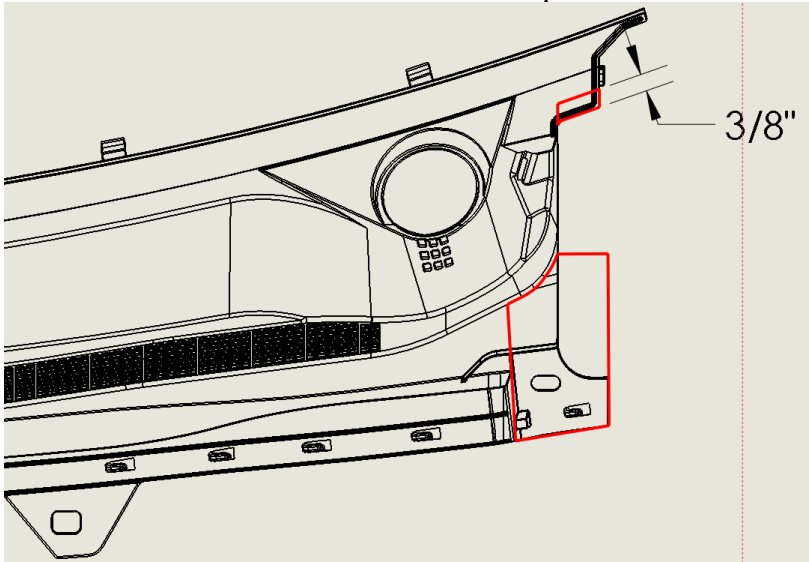

Fig 3
- b. Trim off the areas indicated with the red squares in Fig 3 on the driver side of the cowl